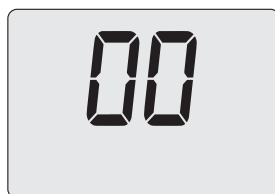

Fig. 10.23
- Press the 17 key to show the value of parameter P06 on the LCD display (Fig. 10.23).